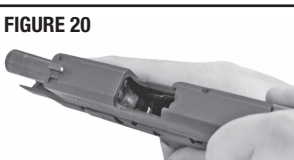

FIGURE 20
- Starting with the slide in the closed position, remove a chambered round as follows: with the barrel still pointing in a safe direction, and with your finger off the trigger and outside the trigger guard, grasp the serrated sides of the slide from the rear with the thumb and fingers (FIGURE 20) while holding the firearm in an upright position, and briskly draw the slide fully rearward in order to extract any cartridge from the barrel chamber and clear it from the pistol.